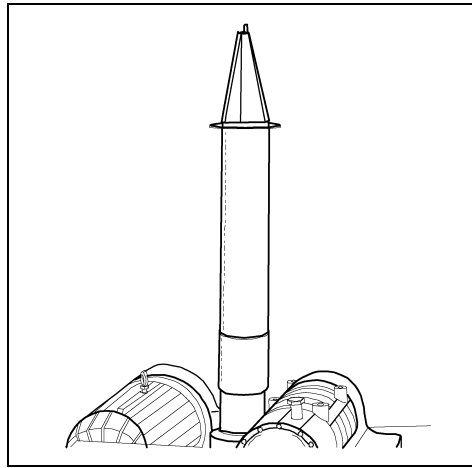
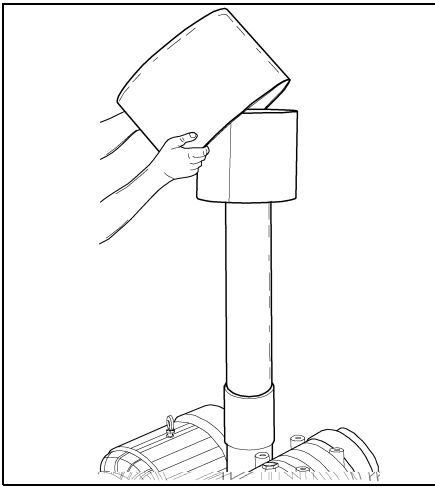
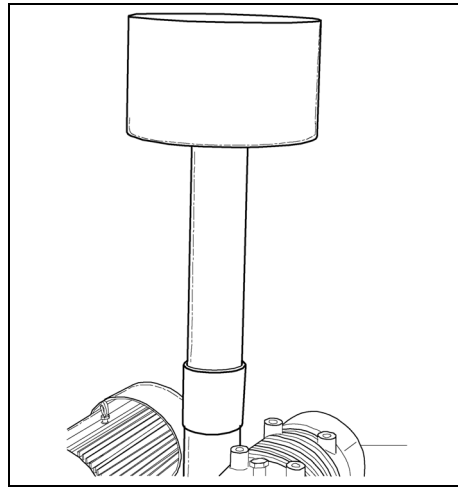

Figure 4E
Figure 4F
Figure 4G
1. The air filter extension tube and housing are connected to the blower inlet by a compression coupler (See Figure 4E, Figure 4F and Figure 4G). For extended filter life, if the pneumatic system is being operated in extremely dirty conditions, a longer extension tube can be used between the blower inlet and the air filter. BE SURE the air filter is positioned so that routine inspection and service can be performed.
2. Place the air filter element with pre-filter on the base and cover with the filter canister using the 3/8" wing nut and washer. The wing nut does not need to be more than finger tight (See Figure 4F and Figure 4G).